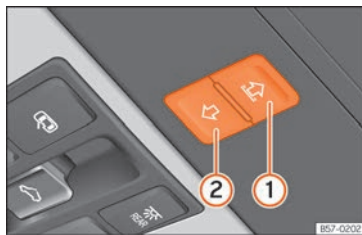

Fig. 83 On the interior roof lining: function button to operate the sun blind.
- If it still cannot be closed, within 5 seconds press the button >>> Fig. 83 ② until the blind closes fully. **The blind closes without the intervention of the anti-trap function!**